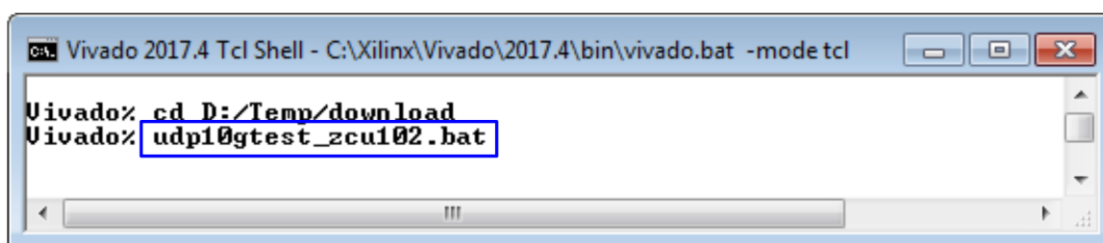

Figure 1-12 Example command script for download to ZCU102/ZCU106/ZC706 by Vivado tool
- a) For ZCU102/ZCU106/ZC706 board, open Vivado TCL shell and change current directory to download folder which includes demo configuration file. Type "XXX10gtest\_boardname.bat, as shown in Figure 1-12.